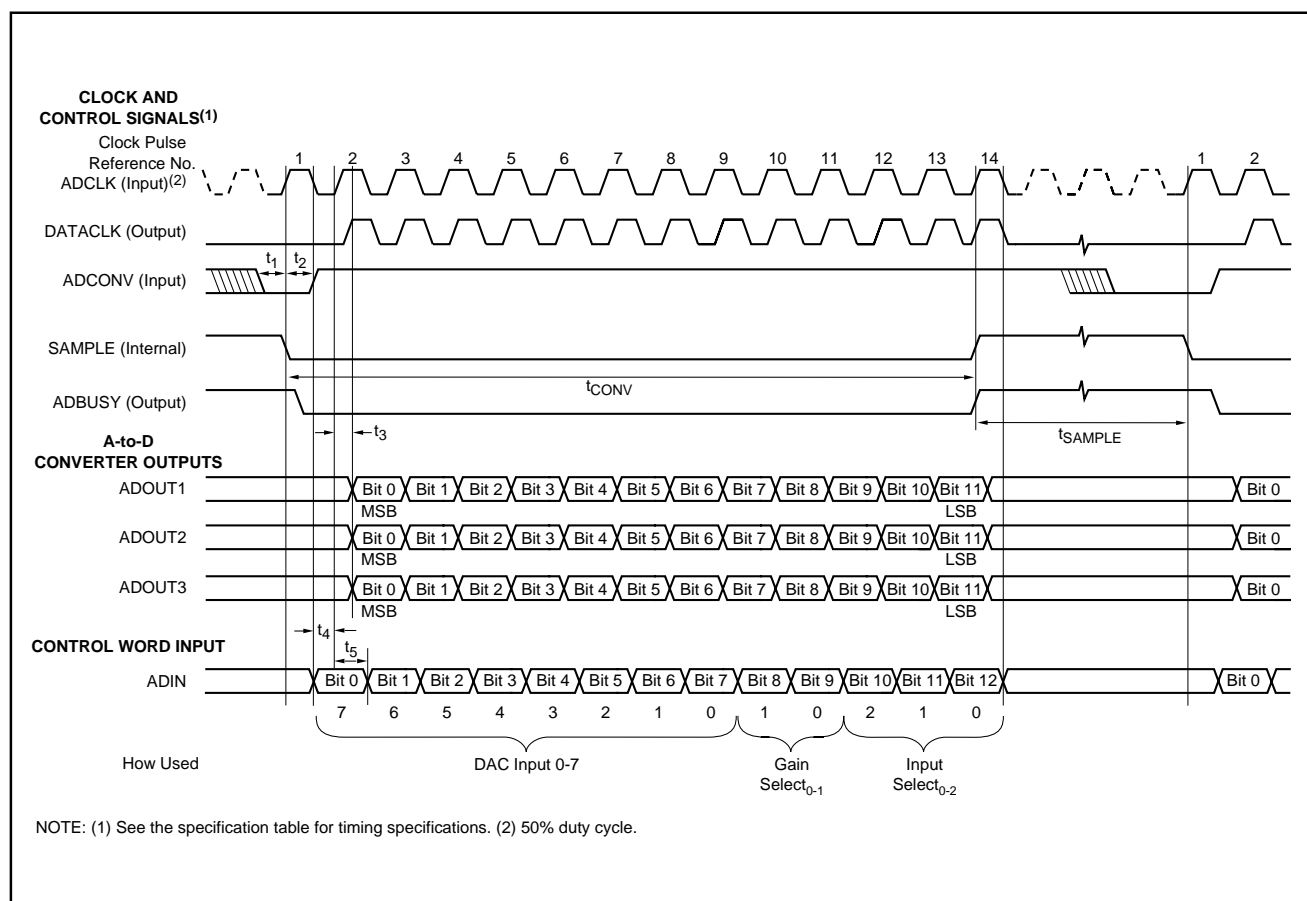

FIGURE 2. Timing Diagram.
sample-and-hold amplifier. It communicates over three synchronous SPI/SSI serial output and one input ports. The VECANA01 operates on external clock that also determines the output data rate (see Figure 2).
The VECANA01 contains seven sample-and-hold amplifiers. Five of them (SH₁ through SH₅) sample simultaneously and have their sample-and-hold timing internally synchronized (the timing is shown in Figure 2). Three of the sample-and-holds (SH₁, SH₃, and SH₅) are connected to the input multiplexers so that they can provide simultaneous sampling for all of their channel inputs. In addition, SH₂ and SH₄ simultaneously sample the third input of their channel (A2 and B2, respectively). This is useful in motor control applications where A1 and B1 are the quadrature inputs for one position sensor, and A2 and B2 are the quadrature inputs for a second position sensor (see Figure 9). In that application, it is desir-
An 8-bit DAC provides 256 output voltage levels from 0V to 2.499V (see Table I for input/output relationships). The DAC is controlled by the DAC Input portion of the input setup word. The DAC Input portion of the word is strobed into the DAC at the end of the conversion cycle (14th CLK pulse in Figure 2).
The value of the DAC output voltage is determined by the DAC Input portion of the ADIN word (bits 0 through 7, see Figure 2). The 8-bit DAC has 256 possible output steps from 0V to +2.499V. The value of 1LSB is 0.0098V.
Sampling and conversion is controlled by the ADCONV and ADCLK input (see Figure 2). The VECANA01 is designed to operate from an external clock supplied at the ADCLK
input. This allows the conversion to be synchronous with system timing so that transient noise effects can be minimized. The ADCLK signal may run continuously or may be supplied only during convert sequences. The ADBUSY and DATACLK signals are internally generated and are supplied to make interfaces with microprocessors easier (see Figures 2 and 9).
NOTE: (1) See Figure 2, "Clock Pulse Reference No."
Configuration information for these parameters is contained in the ADIN word (see Figure 2). As one conversion is taking place, the configuration for the next conversion is being loaded into the buffered Input Setup Register via the ADIN word. Tables I, VII, VIII and X shows information regarding these parameters.
The Input Select portion of the ADIN word (bits 10, 11 and 12) (see Figure 2) are decoded and determine the open/closed condition of the multiplexer switches. This in turn determines which input signals are connected to the sample and holds and which sample and holds are connected to the PGAs/ADCs.